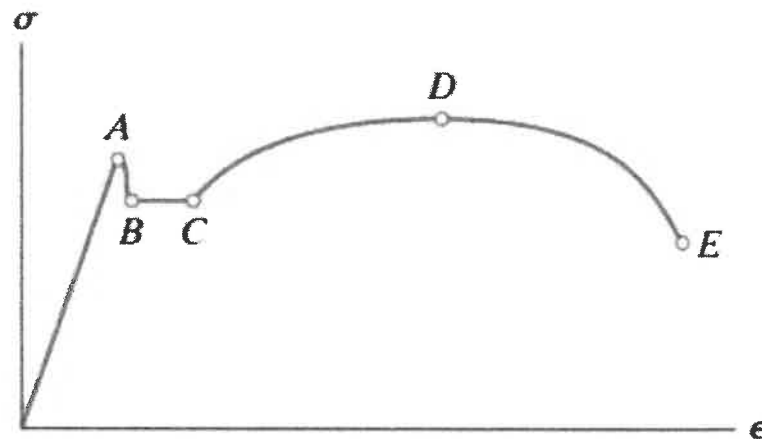

Figure 13: Stress-Strain Diagram
*Refer Below - Figure13 : Stress-Strain Diagram .*